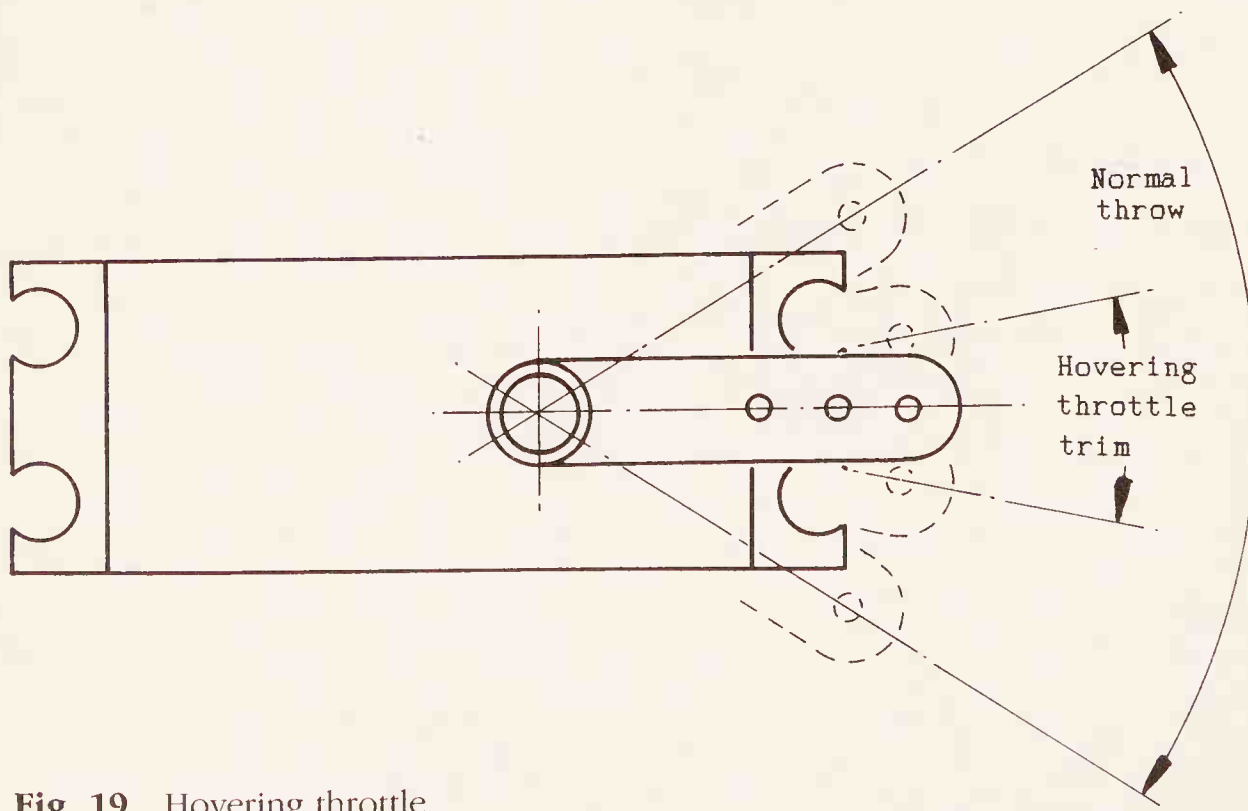

Fig. 19 Hovering throttle.
- (b) Another throttle trim, usually called 'hovering throttle', which is only effective on the centre part of the throw and controls the hovering speed (Figure 19).